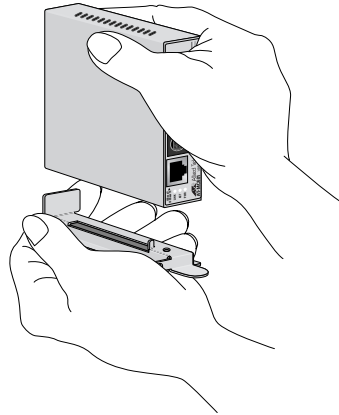

Figure 18 Rack Mount - Set on Slider
1. Attach the unit to one of the sliders that will hold the unit in the chassis, as shown in Figure 18.